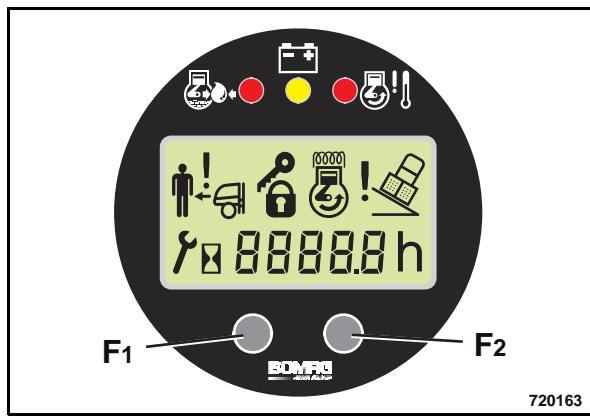

Fig. 80
- Keep both function keys F₁ und F₂ (Fig. 80) in the display module depressed for two seconds.